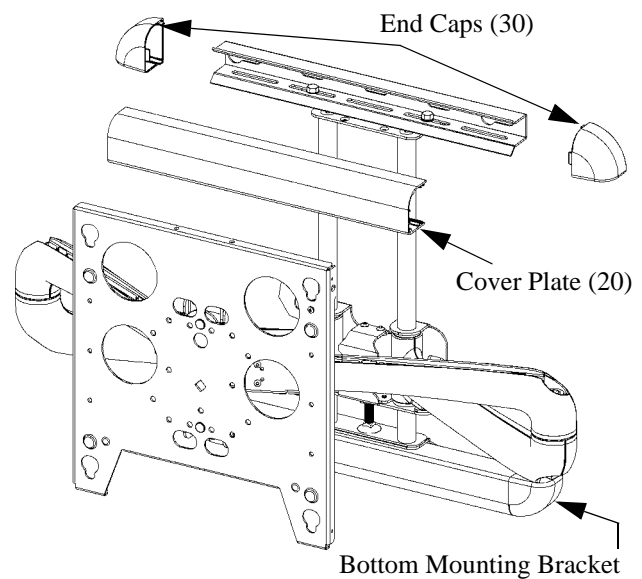

Figure 5. Install Cover Plates and End Caps
1. Install cover plate (20) over the top bracket (see Figure 5).
2. Install end cap (30) on the cover plate (20).